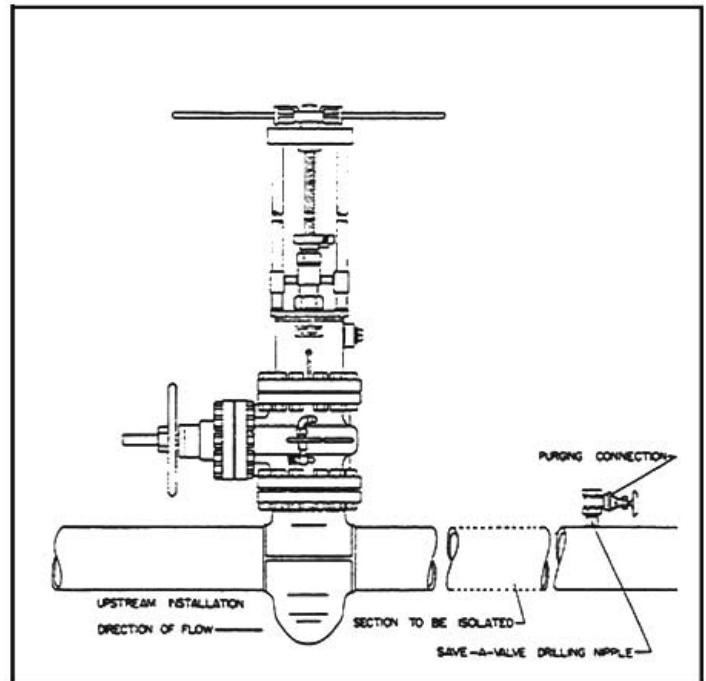

FIGURE 15
- 5. See **Figure 15** when using one stopping machine to stop-off pipe.